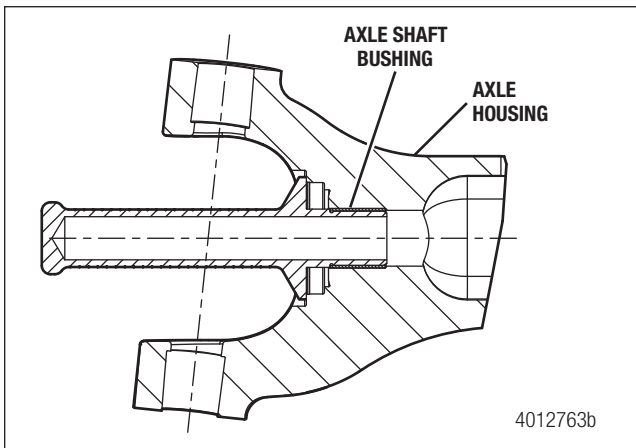

Figure 11.5
3. Using the appropriate bushing driver, install a new bushing and thrust washer into the axle housing. See Section 20 Special Tools on page 69 for the appropriate driver. Figure 11.5.